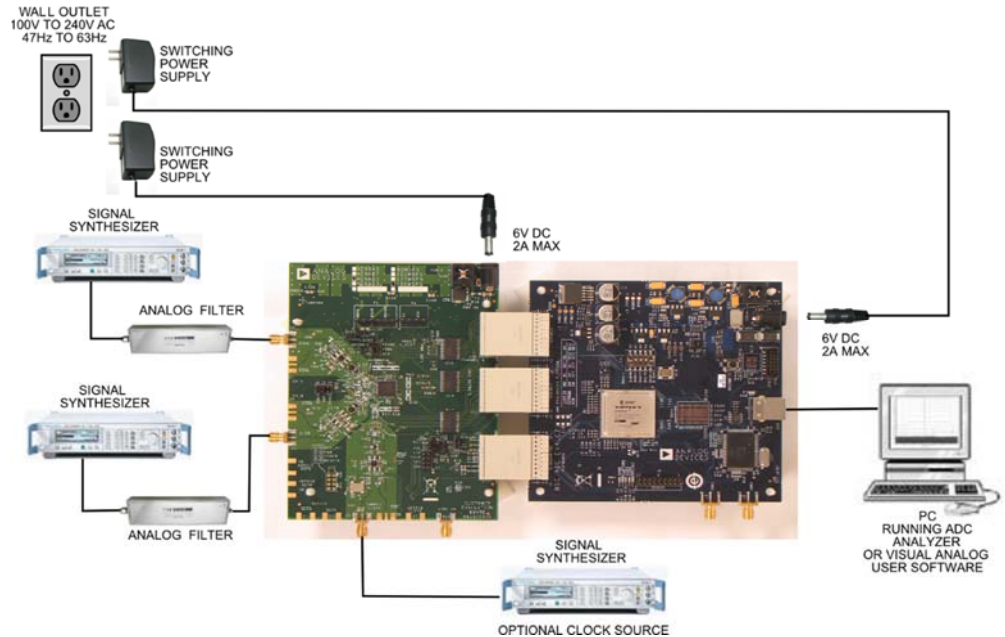

Figure 1: AD6655 Evaluation Board with HSC-ADC\_EVALCZ Data Capture Board
1. Connect the AD6655 evaluation board and the HSC-ADC-EVALCZ board together as shown in Figure 1.